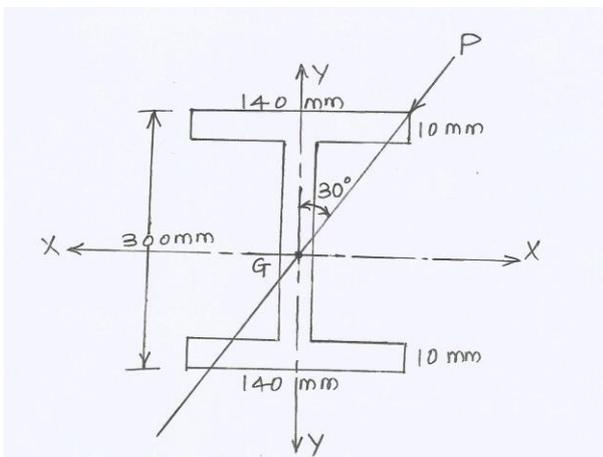

Figure-3
- (c) An Indian Standard I-section ISMB 300 is shown in Figure- 3. The properties of the section are as below: $I_{xx} = 7719 \text{ cm}^4$, $I_{yy} = 456 \text{ cm}^4$. The plane of loading is inclined at 30° to the Y-axis. Find moment 'M' if the maximum bending stress induced is 120 N/mm^2 . 07